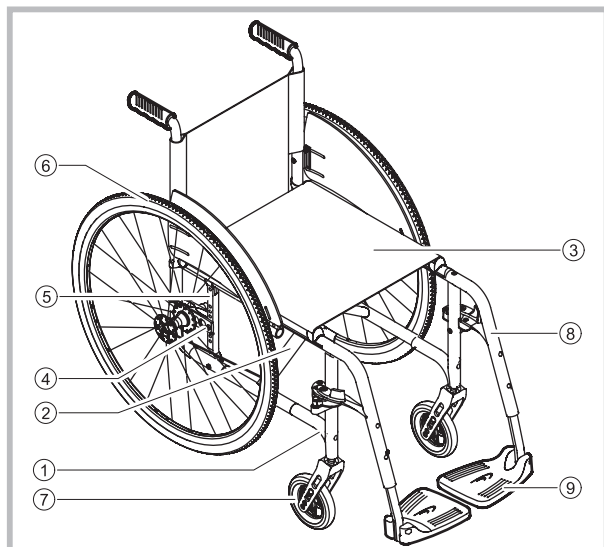

Figure 1
The wheelchair consists of two side frames ①, which are attached by a cross brace ②. The cross brace to which the seat-cover ③ is attached, enables the wheelchair to be folded. The rear wheels ⑥ are attached to the side frame by the adapter plates ④ and an adapter plate support ⑤. The front wheels ⑦ as well as the swing away leg rest hanger ⑧ with the footrest ⑨ are attached to the front of the side frame. (See figure 1)